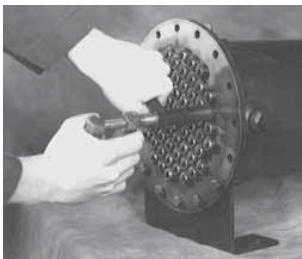

Fig. 6 Short end
11. Insert the installation and removal tool through the seal retaining tool P/N 248623. With a slight twisting motion, push the tube tool through a short end seal until the tool's shoulder contacts the tube. Holding the seal retaining tool firmly against the top of the seal, grip the tube with the tool and with a slight twisting motion, pull the tube through the short end seal until about 1/4" of the tube end sticks outside of the seal. Repeat for each tube (see Fig. 6).